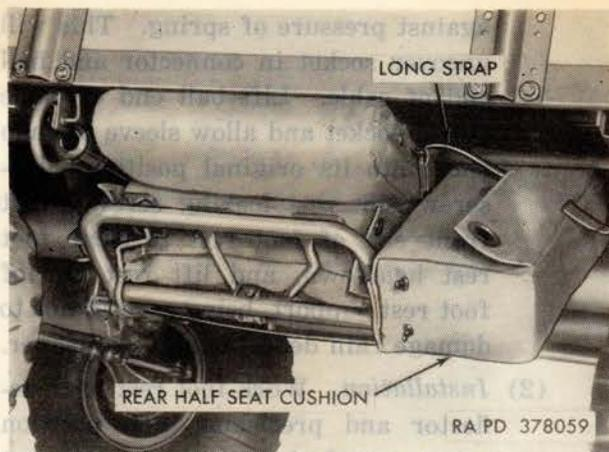
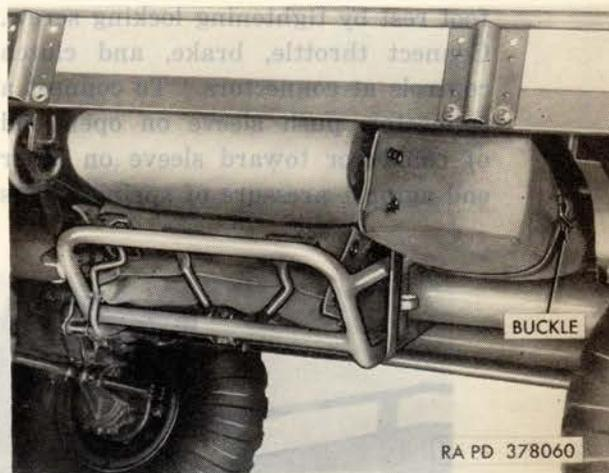

Figure 26. Stowing rear half of seat cushion, showing arrangement of straps.
Figure 27. Foot rest and driver's seat stowed and secured.
- Position rear half of seat cushion in front of foot rest and seat back and push end of long strap through slot in holddown flap of cushion (fig. 26).
Push cushion into installed position (fig. 27) and tighten straps with buckle.
- Unfasten buckle (fig. 27) and pull rear half of seat cushion from between right frame tube and platform (fig. 26).